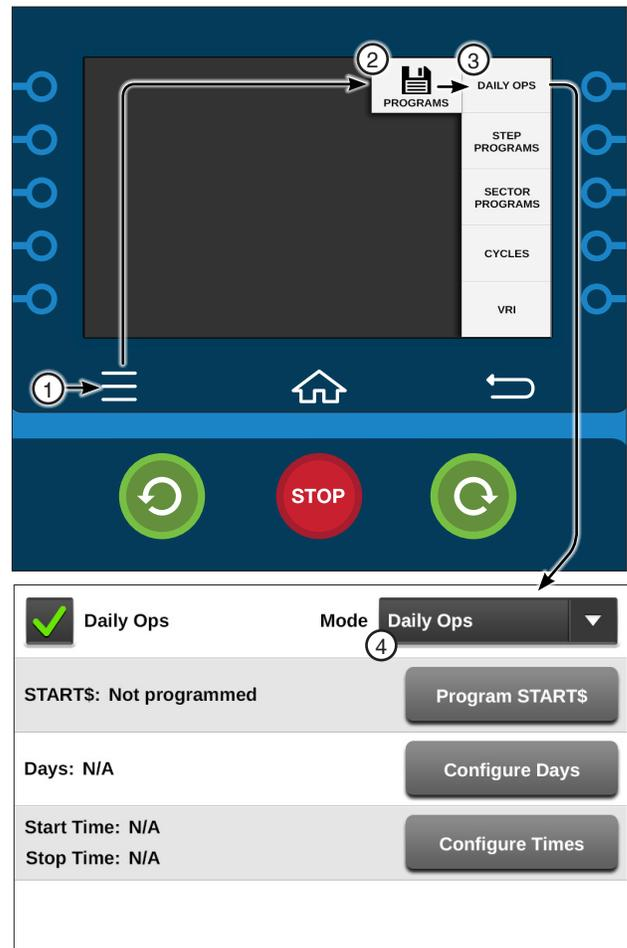

Figure 91-1 1. Menu
1. Push **Menu**, **Programs** and **Daily Ops** to display the Daily Ops screen. Refer to Figure 91-1.